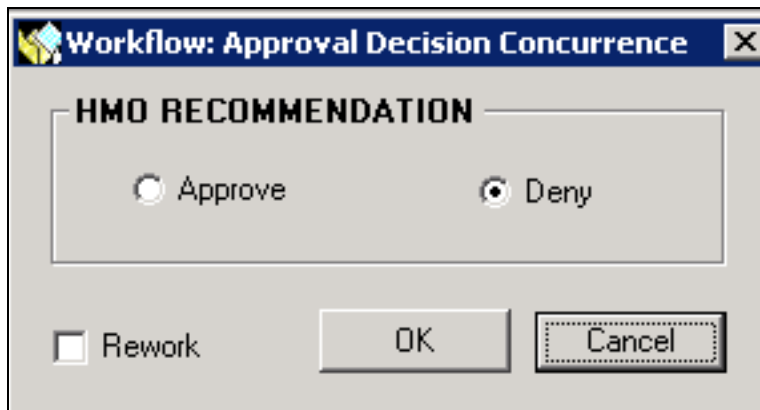

Figure 7-99: Approval Decision Concurrence Dialog Box
11. Click back on the **Overall Review** tab. On the bottom left part of the tab, click the COMPLETE WORK STEP button. The Approval Decision Concurrence dialog box is displayed (Figure 7-99).